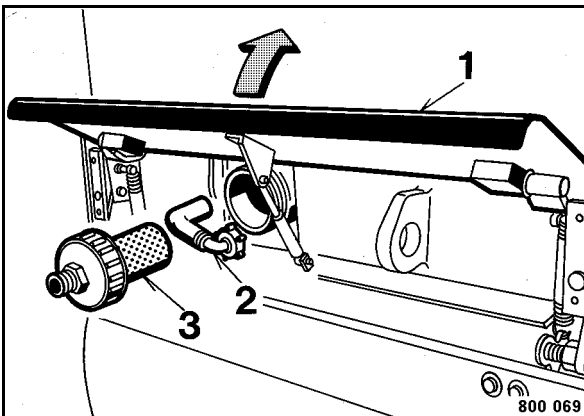

Fig. 110
- Open the rear flap 1 (Fig. 110).
- Unscrew the spigot nut (2).
- Unscrew the water filter (3) and clean it.